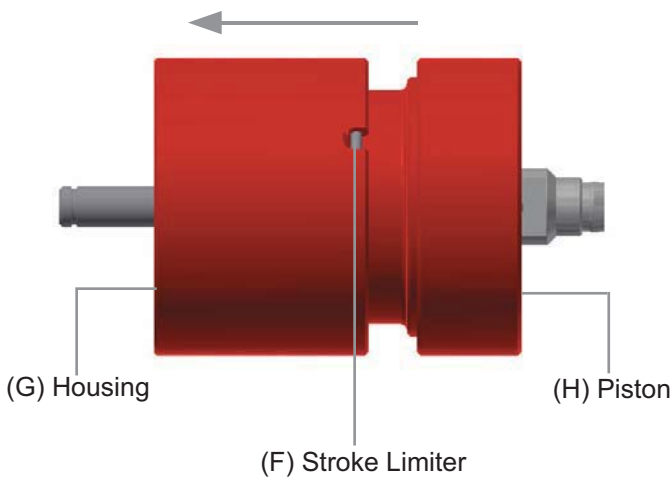

Figure 9. Removal of Stroke Limiter
- 7.5. Use a small pick to remove the internal (L) o-rings. See Figure 9.